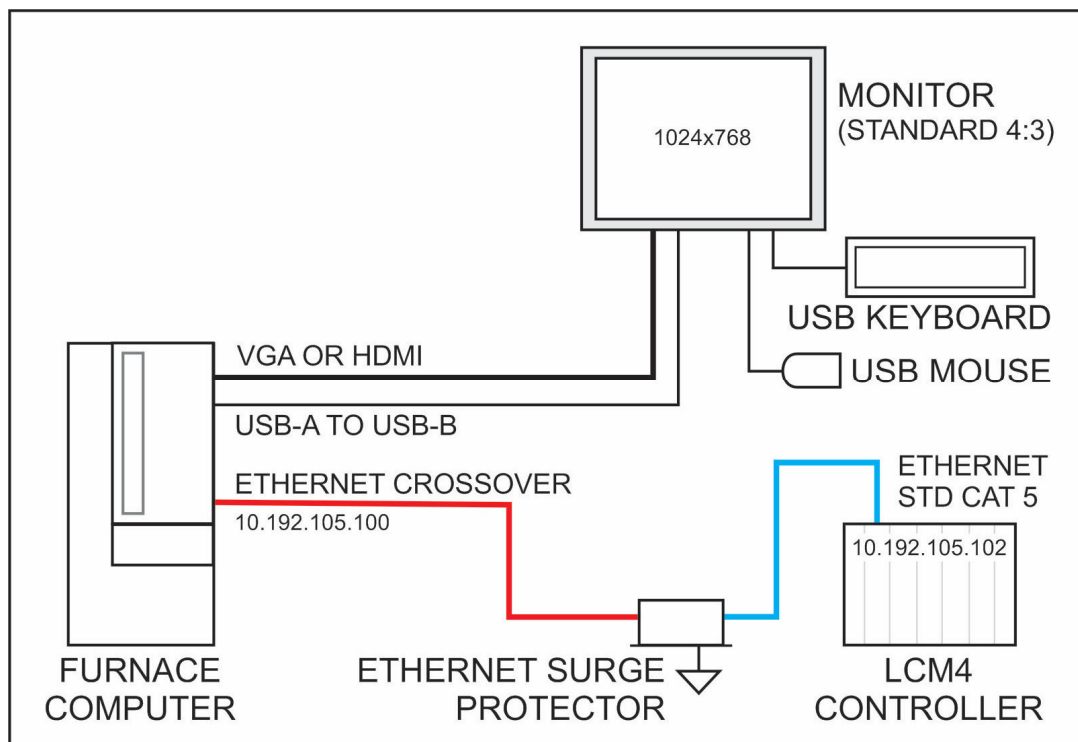

Figure 1-1 Furnace Computer Schematic
- 3) Connect standard (4:3) monitor VGA (or HDMI) and USB ports to computer (see fig 1-1).